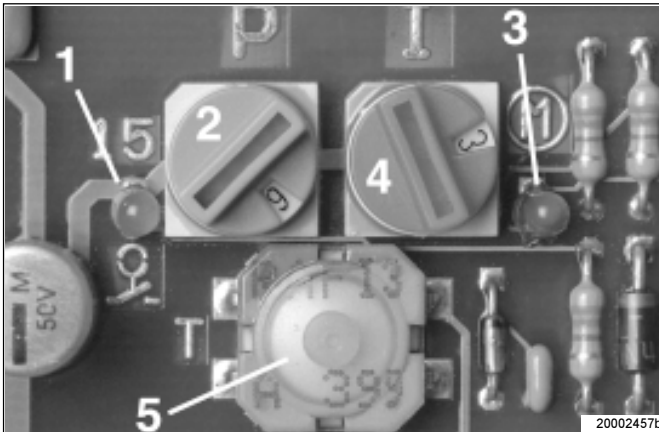

Fig. 12 - LED on the printed circuit board
Note: When the switch is on "0" a fault is shown at the right-hand LED 3 Fig. 12. At the same time the factory-set operating time is accepted.
- When one of the rotary switches 2, 3 Fig. 12 is on the „0“ setting a fault is shown at the right-hand LED 3.
Pushbutton 5 Fig. 12 continuously actuated (short circuit)
- If a short circuit occurs at the pushbutton or is present at the external illuminated pushbutton Fig.13 or at the connecting parts a fault is shown at the red LED 3, fig. 12.
- To check whether power is applied to the printed circuit board, observe whether the LED 1 Fig. 12 is lit.
• Fault: Right-hand LED 3 Fig. 12 flashes
<ul style="list-style-type: none"> • One of the two rotary switches 2, 4 Fig. 12 is on „0“. Signal: 4 flashes • Short circuit at pushbutton 5 Fig. 12 or, if present, at the illuminated push button or at their connecting parts Signal: 3 flashes 	<ul style="list-style-type: none"> • Set rotary switch to a number or a letter. • Check whether the short circuit is at the PCB or, if present, at the illuminated pushbutton. If necessary, exchange the PCB or the illuminated pushbutton.